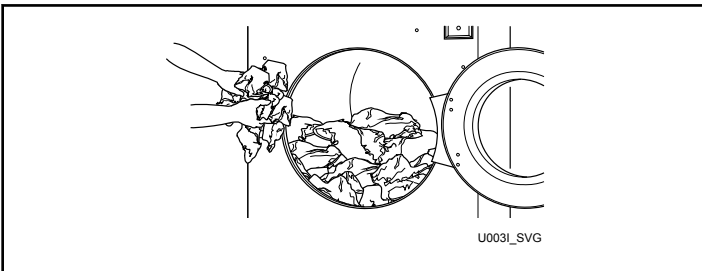

Figure 41
3. Load to capacity whenever possible. **DO NOT OVERLOAD.** Refer to *Figure 41*.